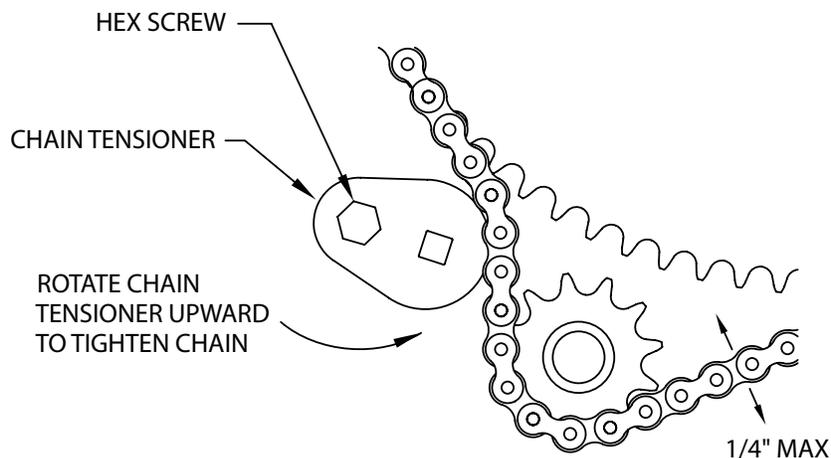

Figure 27
- To adjust, loosen hex screw with $\frac{3}{4}$ " wrench and rotate chain tensioner toward chain as shown until chain moves no more than a total of $\frac{1}{4}$ ". See Figure 27 below.